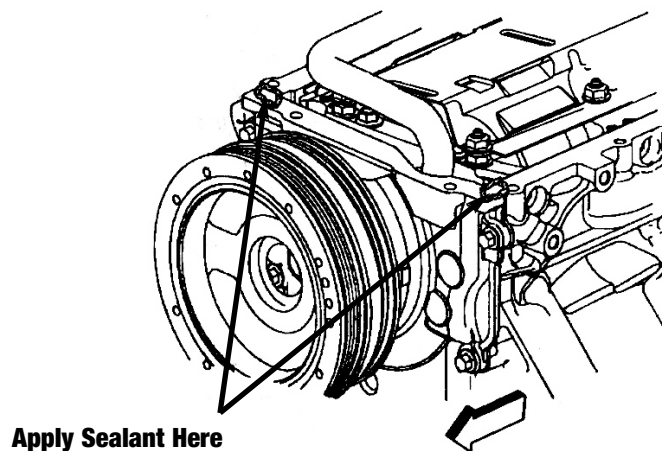

Figure 3 - Sealant Locations
10. Apply a small amount of sensor safe RTV silicone to the areas of the front cover that meet the oil pan sealing surface (**See Fig. 3**). Tighten the oil pan bolts.